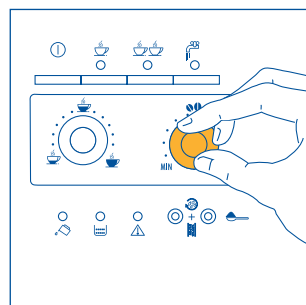
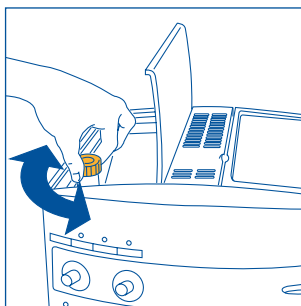

Fig.7
Fig. 17
- 2) Adjust the coffee flavor dial (Fig. 7) to set the desired taste of the coffee. Turning the knob clockwise increases the quantity of coffee beans that the machine will grind, and thus makes the taste of the coffee stronger. When using the machine for the first time, the correct position of the knob can be found by trial and error. Make sure not to turn it too far clockwise, otherwise the coffee will be delivered too slowly (in drips), in particular when preparing two cups of coffee.
**NOTE 1:** If the coffee is delivered a drop at a time or not at all, turn the grinding coarseness regulator (fig. 17) one click clockwise (see section 6). Turn a click at a time until the coffee is delivered satisfactorily.
**NOTE 2:** If the coffee is delivered too fast and is not creamy enough, turn the coffee flavor dial (fig. 7) clockwise. Proceed by trial and error to find the correct position of the dial. Make sure not to turn the dial too far clockwise, otherwise the delivery may become too slow (in drips), in particular when making two cups of coffee. If, after several coffees, the cream is still not satisfactory, also turn the grinding coarseness regulator (Fig. 17) one click counter-clockwise (see section 6).
To resolve this problem, re-set the grinding coarseness by adjusting the regulator (Fig. 17) one click counter-clockwise (as described in chap. 6).
Nonetheless, after having made the first coffees, if delivery is too fast or too slow (in drips), the grinding coarseness regulator can be adjusted (Fig. 17). Turning one click (one number) clockwise achieves faster delivery of the coffee (without drips).